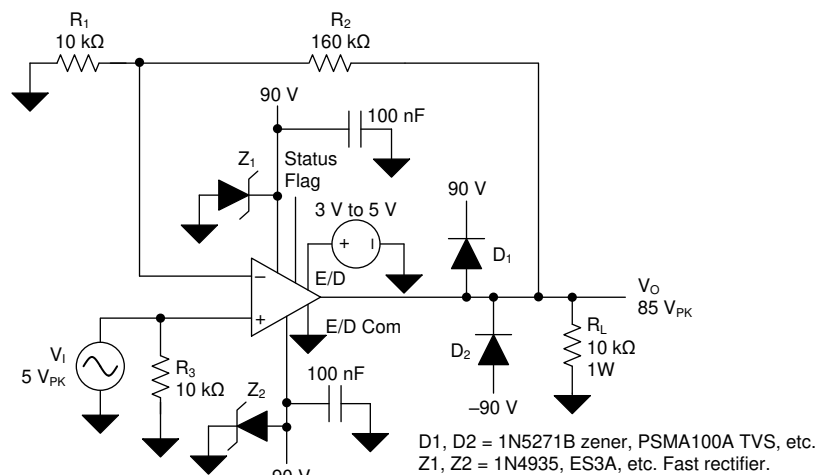

Figure 61. OPA462, High-Voltage Noninverting Amplifier, $A_v = 17$ V/V
The OPA462 high-voltage op amp can be used in commonly applied op amp circuits, but with the added capability of allowing for the use of much higher supply voltages. A very common application of an op amp is that of a noninverting amplifier with a gain of 1 V/V or higher. Figure 61 shows the OPA462 in a noninverting configuration.
Figure 61 shows a noninverting circuit with a moderately high closed-loop gain (A_V) of 17 V/V (24.6 dB). In this example, a 5- V_{PK} ac signal is amplified to 85 V_{PK} across a 10-k Ω load resistor connected to the output. The peak current for this application is 8.5 mA, and is well within the OPA462 output current capability. Higher output current, typically up to 30 mA, may be attained at the expense of the output swing to the supply rails. A ± 90 - V_{DC} power supply is required for this configuration.
A potentially destructive mechanism is the back EMF transient that can be generated when driving an inductive load. D_1 , D_2 , Z_1 and Z_2 in **Figure 61** have been added to the basic OPA462 amplifier circuit to provide protection in the event of back EMF. If the voltage at the OPA462 output attempts to momentarily rise above V_+ , D_1 becomes forward-biased and clamps the voltage between the output and V_+ pins. This clamp must be sufficient to protect the OPA462 output transistor. If the event causes the V_+ voltage to increase the power supply bypass capacitor, Z_1 , or both, a Zener diode or a transient voltage suppressor (TVS) can provide a path for the transient current to ground. D_2 and Z_2 provide the same protection in the negative supply circuit.
The OPA462 noninverting amplifier circuit with a closed-loop gain of 17 V/V has a small-signal, –3-dB bandwidth of nearly 800 kHz. However, the large-signal bandwidth is likely of greater importance in a high-output-voltage application. For that mode of operation, the slew rate of the op amp and the peak output swing voltage must be considered in order to determine the maximum large-signal bandwidth. The slew rate (SR) of the OPA462 is typically 6.5 V/ μ s, or 6.5×10^6 V/s. Using the 85- V_{PK} output voltage available from the circuit in **Figure 61**, the maximum large-signal bandwidth is calculated from the slew rate formula. Equation 1, Equation 2 and Equation 3 show the calculation process.